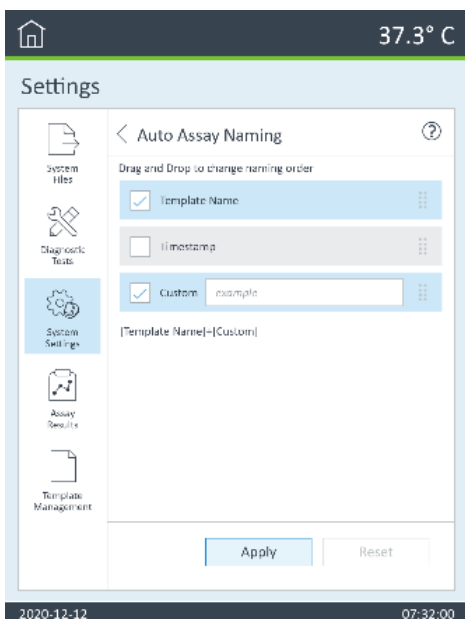

Figure 22. Auto assay naming window.
Auto assay naming allows users to specify the default name for each Assay Result File (\*.xflr) that is created on the XF HS Mini Analyzer. See Figure 22.
- 1 Adjust the order of each variable by dragging and dropping the selection in the order desired. Figure 22 shows the configuration (template name) - (Timestamp).